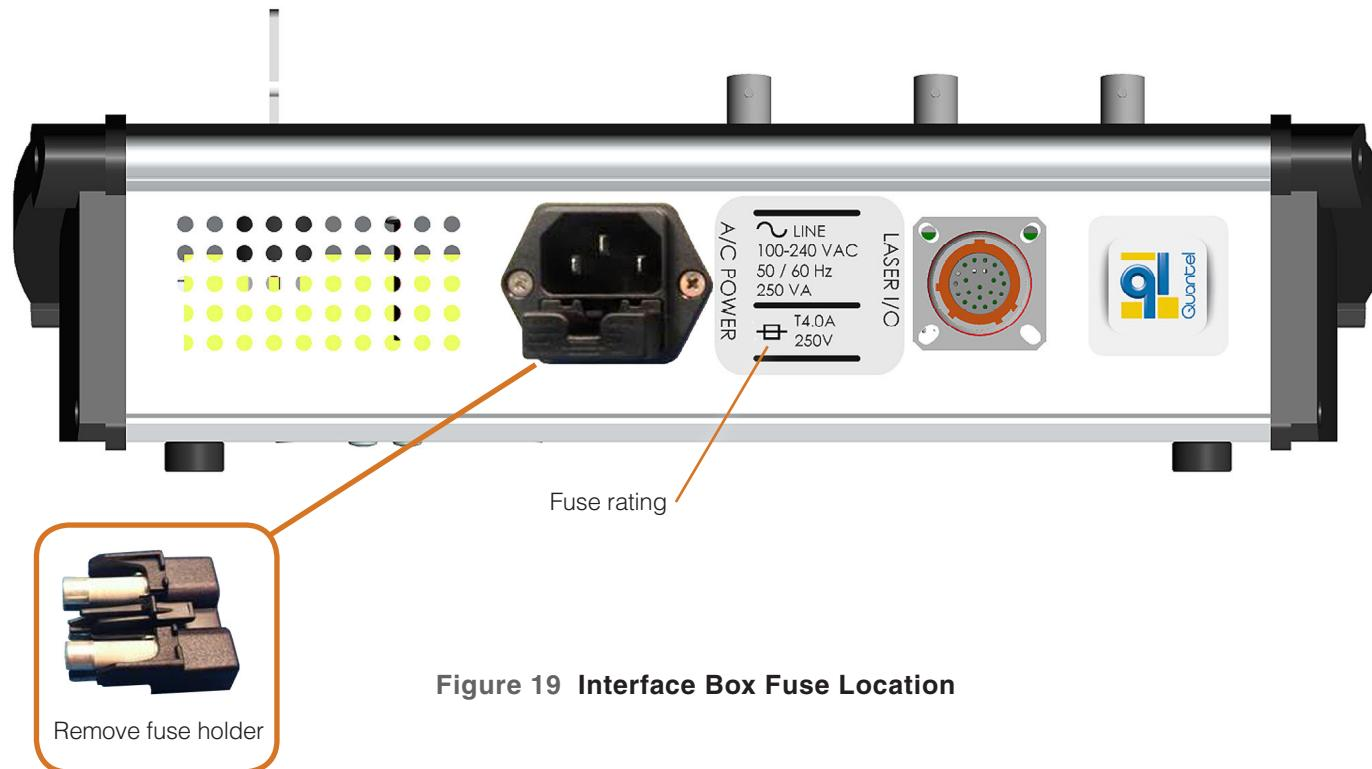

Figure 19 Interface Box Fuse Location
2. Press down on the tab and remove the cap to expose the fuse, see Figure 19.